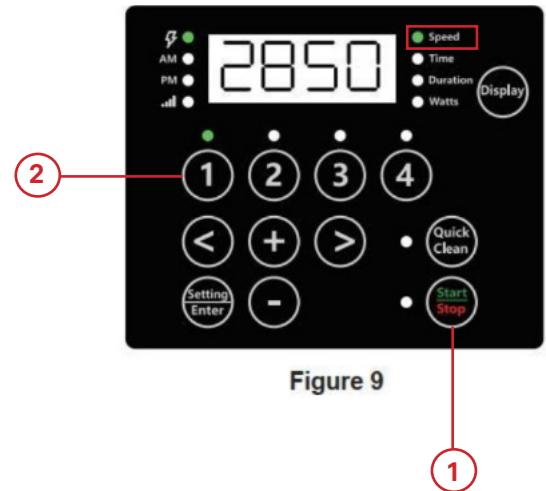

Figure 9
- 2) Press "1". The SPEED 1 LED and the "Speed" parameter LED will blink while editing. **See Figure 9.**